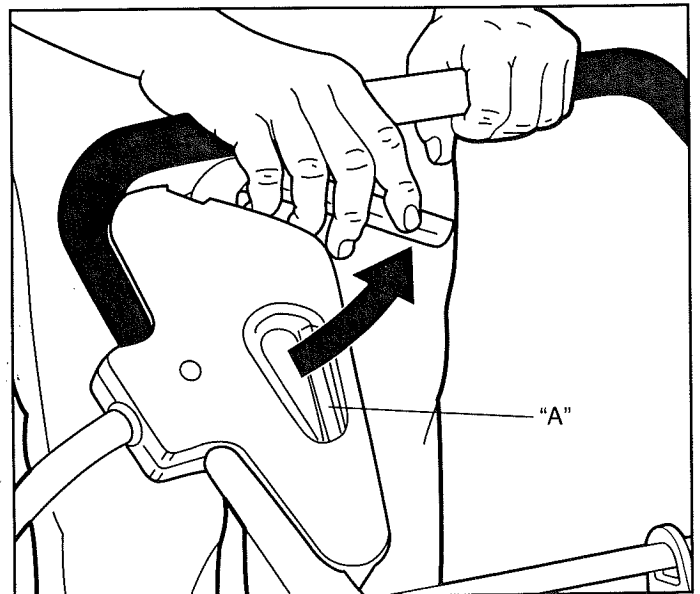

FIGURE 6
Your mower is equipped with a special operator presence control. To operate the control, insert your finger into the opening (A) in Figure 6 and push the lever out so that you can grab it with your other hand. Pull the lever back to turn the unit on and hold it against the mower handle to keep it running. To turn the mower off, just release the lever. The spring loaded "SNAP ACTION" lever will quickly turn the mower off.